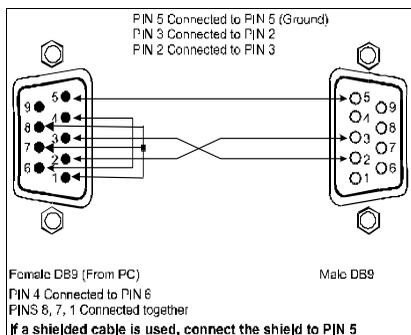

Figure 4: Connecting a PC without using a Null-modem Adapter
- Connect the RS-232 DB9 port on your PC to the RS-232 DB9 rear panel port on the **VS-88HD** unit, as Figure 4 illustrates